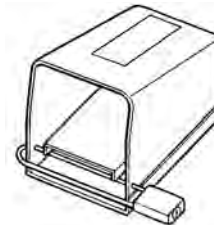

Figure 1 – Locked Foot Switch
- Lock foot switch when machine is not in use (Figure 1). Avoids accidental starting.